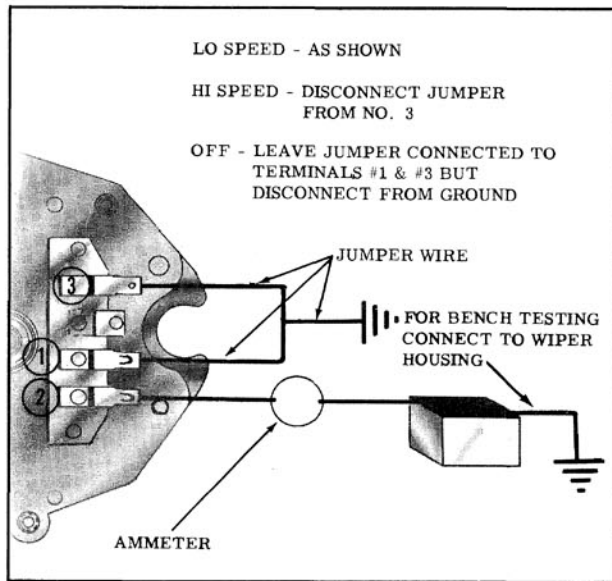
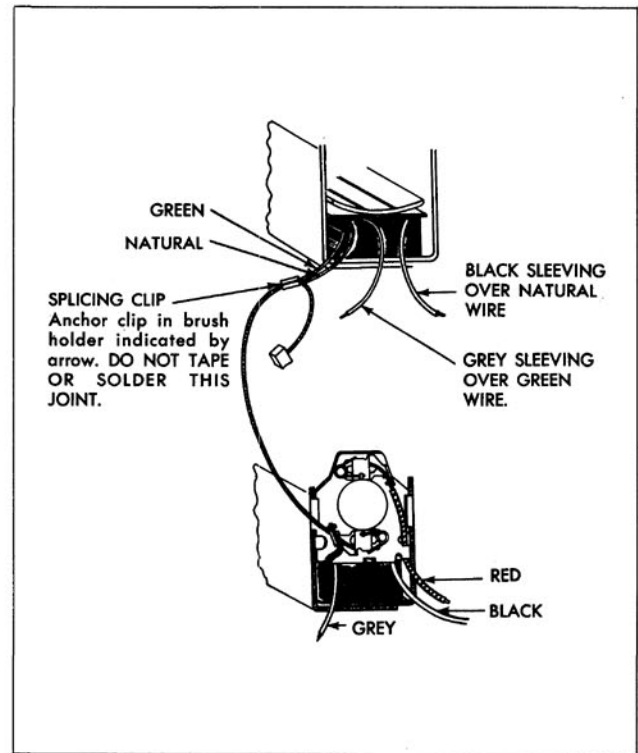

Fig. 13-133 Trouble Shooting Connections
Fig. 13-134 Splice Connections
2. With ignition switch on, check for 12 volts at harness terminal that connects to number (2) terminal. (Fig. 13-133)
3. To determine if dash switch or car wiring are at fault, disconnect harness from wiper motor and try operating wiper as shown in Fig. 13-133. If wiper fails to operate, disconnect transmissions from wiper crank arm and recheck wiper operation. If wiper still fails to perform correctly, remove wiper from car and check wiper according to procedure under TROUBLE SHOOTING WIPER DETACHED.
2. Disconnect wiring harness from wiper motor and try operating wiper independently of dash switch as shown in Fig. 13-133.
It is assumed that in many cases there is no information available to the repairman about the original wiper complaint. It is necessary, therefore, that wiper operation be checked according to the instructions shown in Fig. 13-133. **IMPORTANT:** Be sure to use an ammeter capable of reading at least 30 amperes in the feed wire circuit.
0	(1) Loose solder connection at wiper terminal No. 2. (Fig. 13-133) (2) Loose splice joints. (Fig. 13-134)